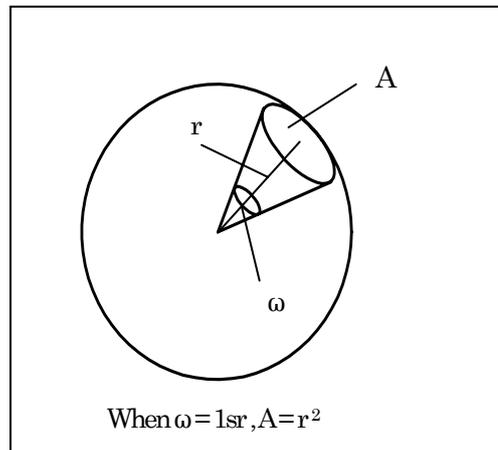

Figure 5: Solid Angle
i) Solid angle is defined as the area on a sphere of radius r divided by r². (See figure 5)